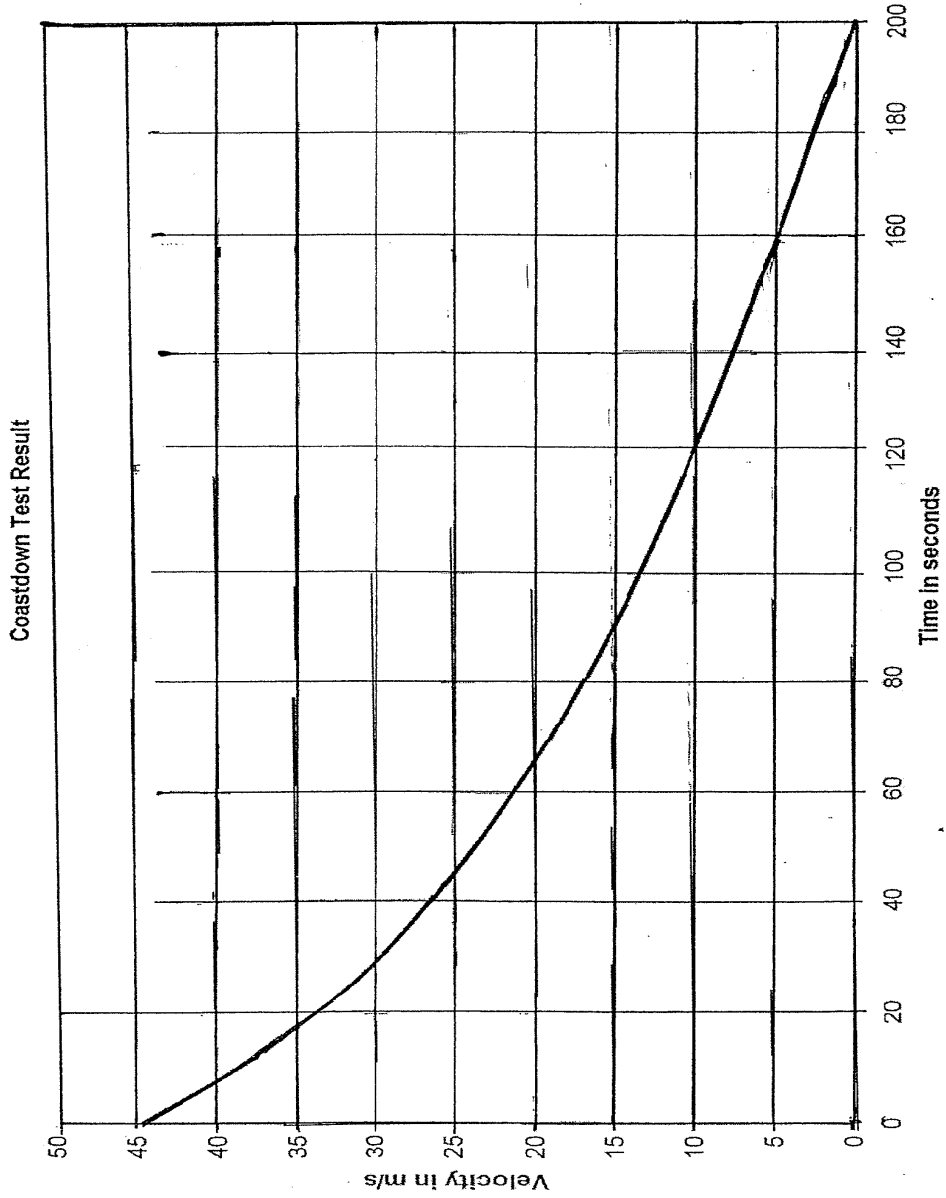

Figure Q3
- Q3 (a) Figure Q3 shows the results of a “coastdown” test carried out on the first prototype van from Q2. From this, calculate the rolling resistance coefficient of the van and hence the drag coefficient.